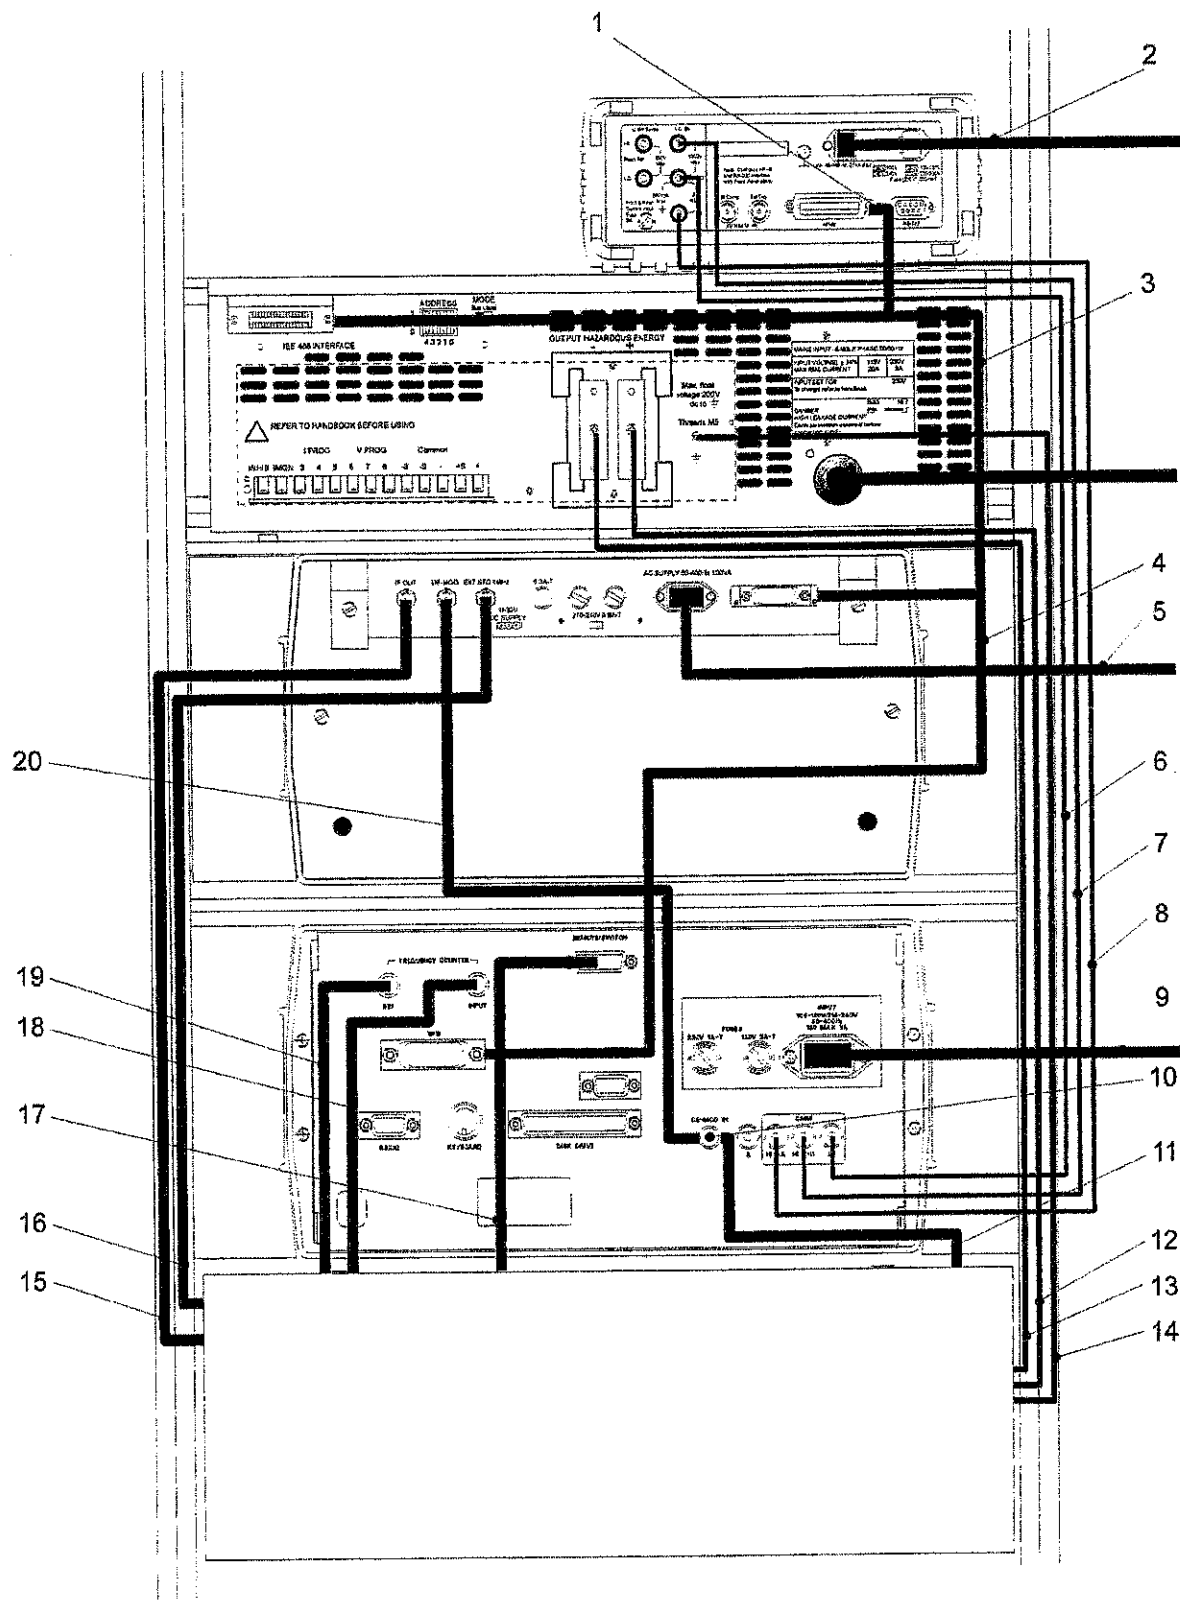

Fig 3 System Equipment Interconnections - Rear
- (1) Rear cable item Nos 6, 7, 8, 12, 13 and 14 must be routed and secured along the insides of the right-hand (viewed from rear) rear rack supports as shown in Fig 3.
- (2) Rear cable item Nos 15 and 16 must be routed and secured along the insides of the left-hand (viewed from rear) rear rack supports, as shown in Fig 3.